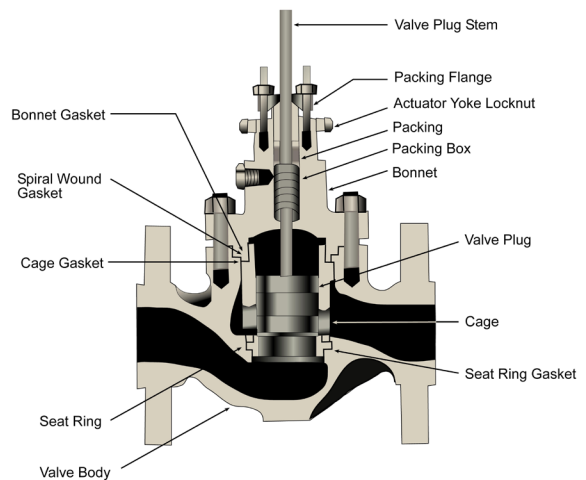

Figure 1. Cross section view of a sliding stem control valve.
The design of the control valve needs to satisfy a series of conditions such as limiting flow rate, allowable sizing pressure drop, effects of fittings, etc. This topic will focus purely on the effect of control valves on flow rate and pressure drop (See Figure 1).
- 1) Figure 1, 2, 3, 5: "Control Valve Handbook", Fisher Controls International reference guide.